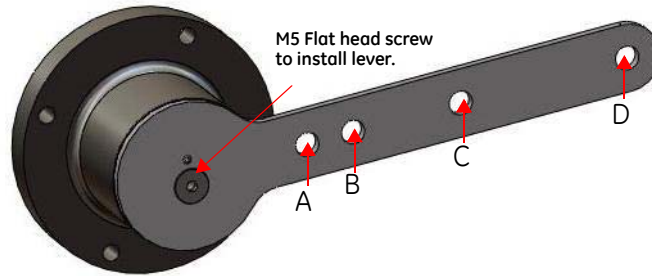

Figure 18 Magnet Holder and Standard Lever for Reciprocating Valves
- Ensure that the lever is pinned to the magnet assembly and held securely by an M5 flat head screw to ensure that the magnet axis is vertical when the lever is in the valve closed position. Tighten the lever screw securely (Figure 18).